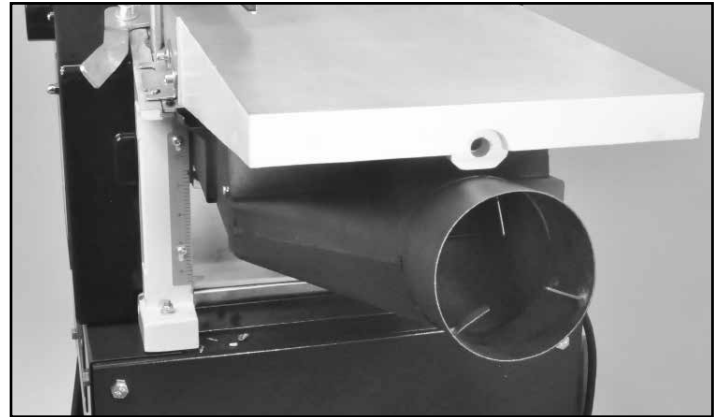

FIG. 39
2. Connect your Dust Collector Hose to the Dust Port, then raise the planer bed to secure the chip ejection hood in position for jointing. FIG. 39.